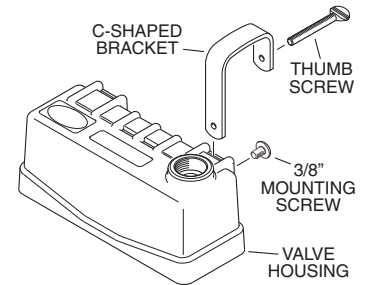

Figure 4
1. Slide both C-shaped brackets into the valve housing as shown (see Figure 4).